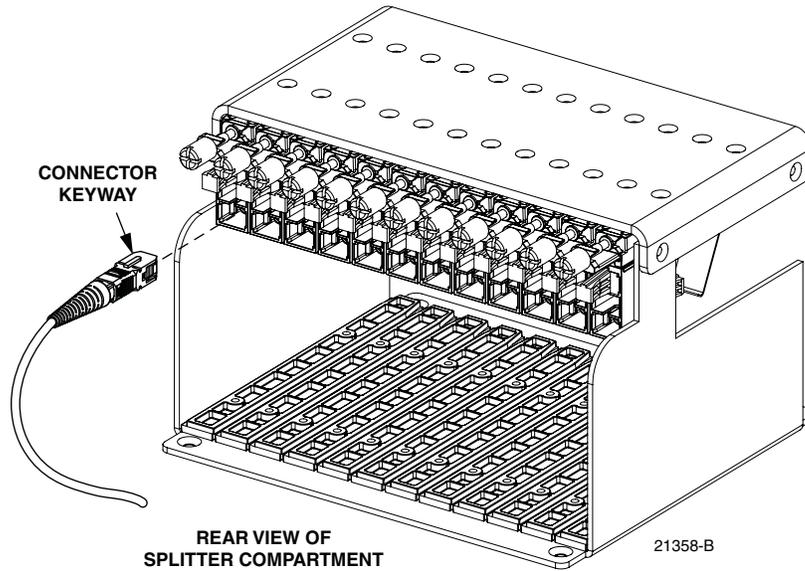

Figure 3. Feeder Cable Connector
3. Remove the corresponding feeder cable connector(s) from the rear of the splitter compartment as shown in Figure 3.